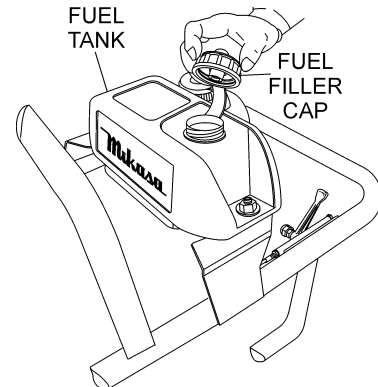

Figure 4. Fuel Tank
2. If fuel is low, remove the fuel filler cap (Figure 4) and fill with only **unleaded** gasoline. Motor fuels are highly flammable and can be dangerous if mishandled. **DO NOT** smoke while refueling. **DO NOT** attempt to refuel the pump if the engine is **hot!** or **running**.